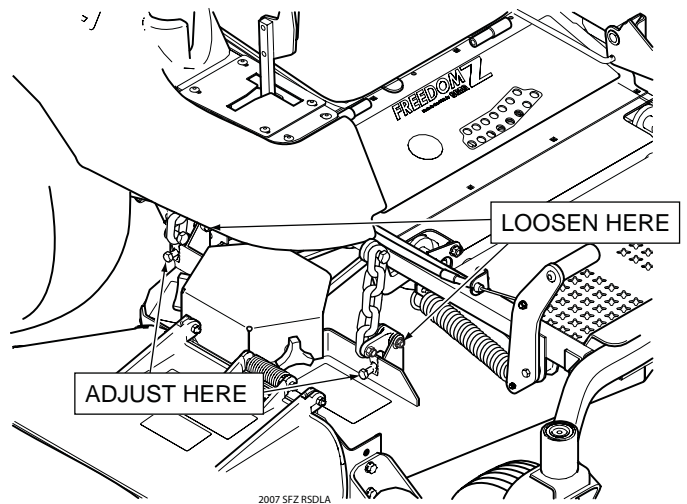

Figure 6-7. Cutter Deck Height Adjustment
3. Loosen the elastic stop nuts securing the deck level links on both sides of the cutter deck. (See Figure 6-7)